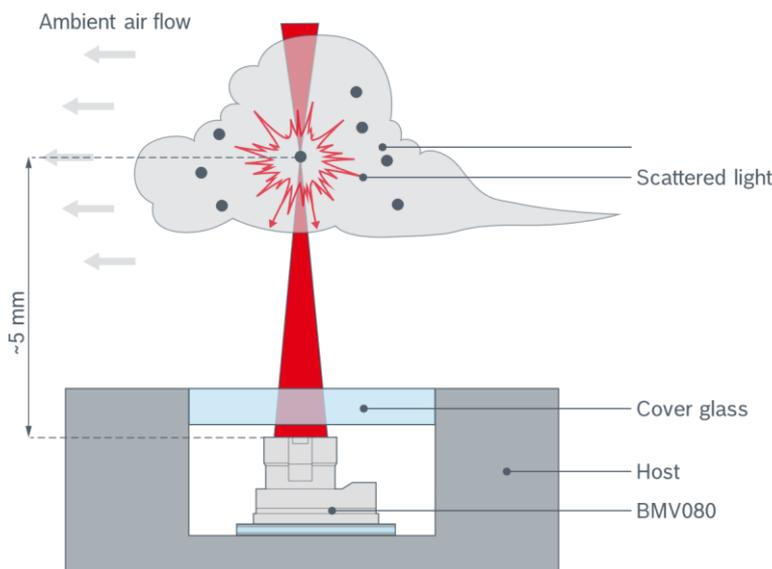

Figure 30: BMV080 measurement distance
- The BMV080 measures near the surface (see Figure 30) of the lens